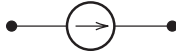

FIGURE P2.1 Image for Problem 2.1.
- 2.1 (B) Identify the device in Figure P2.1: